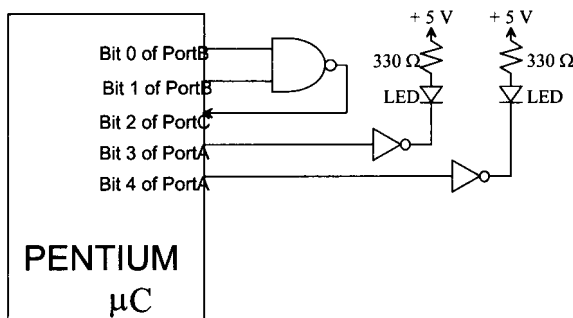

FIGURE P12.12 (Assume that both LEDs are OFF initially.)
- 12.12 A Pentium/82C55-based microcomputer is required to test a NAND gate. Figure P12.12 shows the I/O hardware needed to test the NAND gate. The microcomputer is to be programmed to generate the various logic conditions for the NAND inputs, input the NAND output, and turn the LED ON connected to bit 3 of port A if the NAND gate chip is found to be faulty. Otherwise, turn the LED ON connected to bit 4 of port A. Write a Pentium assembly language program to accomplish this.